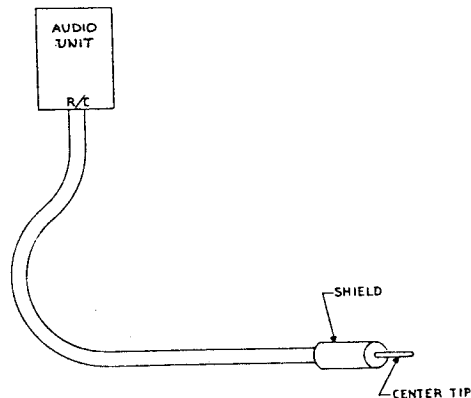

Figure 3-4. REMOTE CONTROL PLUG UNIT
3. Measure the voltage at the center tip of the open end of the cable. (See Figure 3-4. Use ground reference from the EAR plug.) Record this as